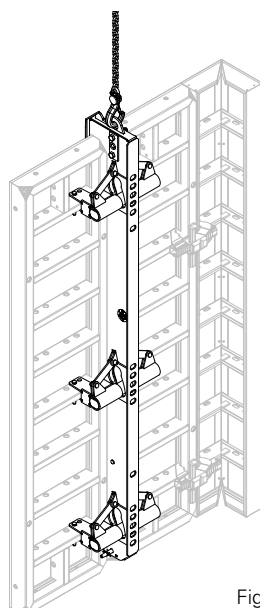

Fig. A17.03
3. Transport panel unit to place of use and attach to the internal formwork with the BFD Alignment Couplers. (Fig. A17.03)